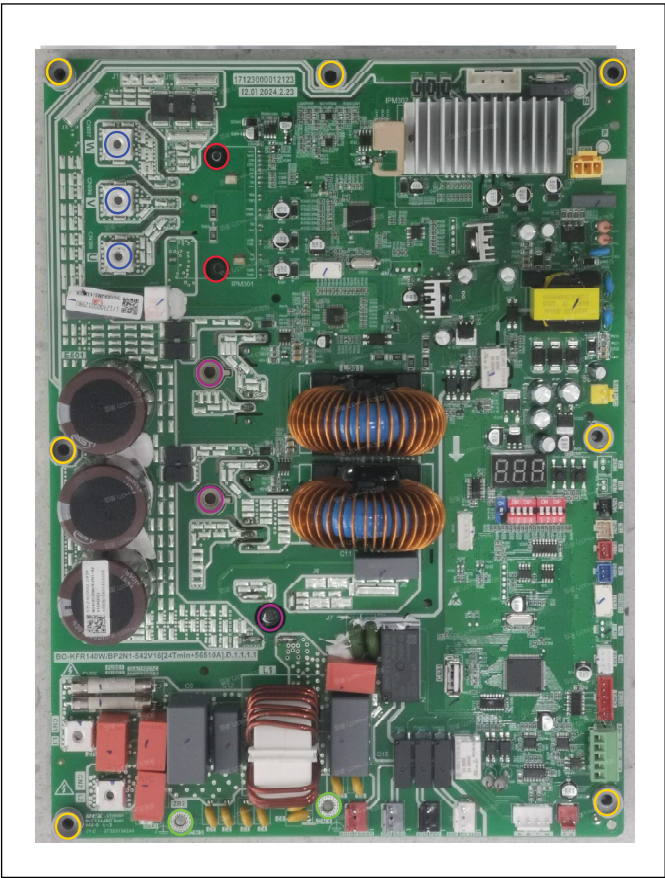

Figure 4
3. Remove the 5 compressor and power wire screws (refer to Figure 4: items circled in blue).
There are 5 different types of screws; they should not be mixed. Different screw types are installed in different locations. Refer to color coding in Figure 4 for appropriate screw type and location.
4. Remove the 2 screws on the board (refer to Figure 4 : items circled in red).
5. Remove the 3 screws on the board (refer to Figure 4 : items circled in purple).
- Remove the 2 ground screws on the board (refer to Figure 4: items circled in green).
14. Fasten all screws (refer to Figure 4 for screw type and location).